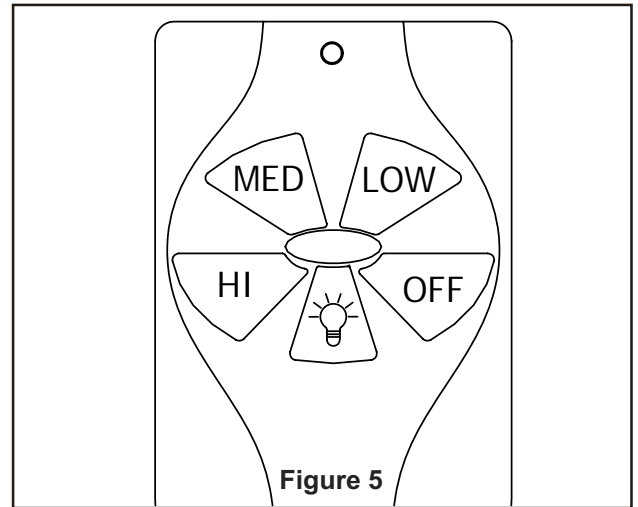

Figure 5
5. Route wires through ceiling canopy. (Figure 5)
4. After connections have been made, the wires should be spread apart with the grounded conductor and the equipment-grounding conductor on one side of the outlet box and the ungrounded conductor on the other side of outlet box, then turn leads upward and carefully push leads into the outlet box, with the white and green leads to one side of the box and the black leads to the other side. (Figure 5)
### 5. Remote functions: (Figure 5)